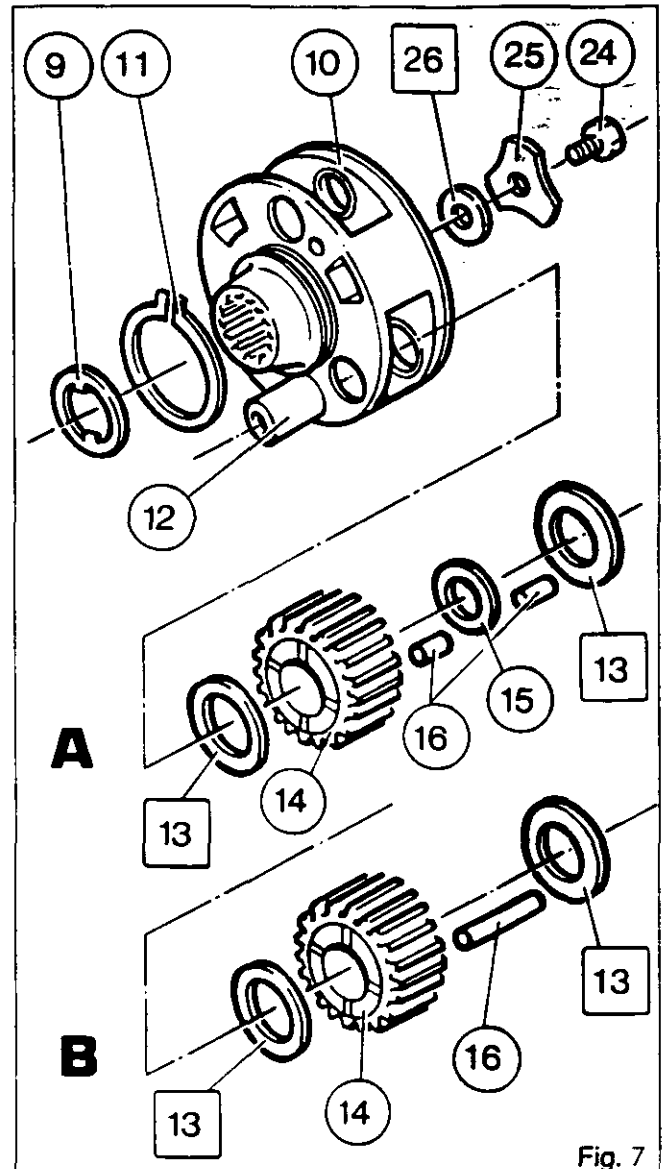
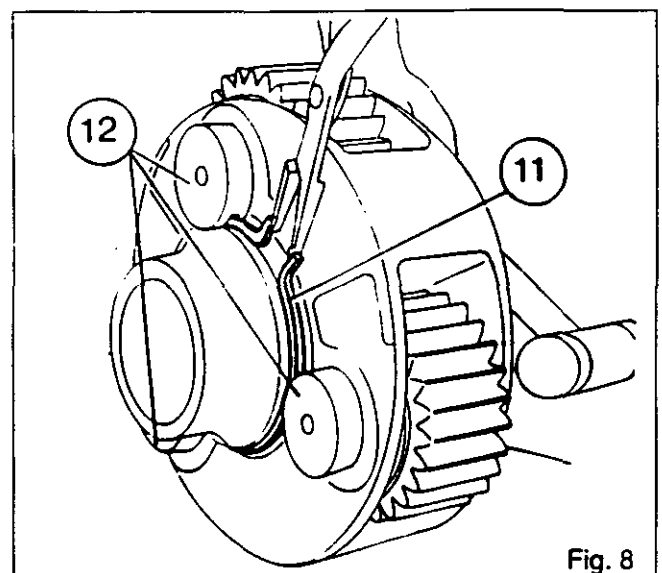
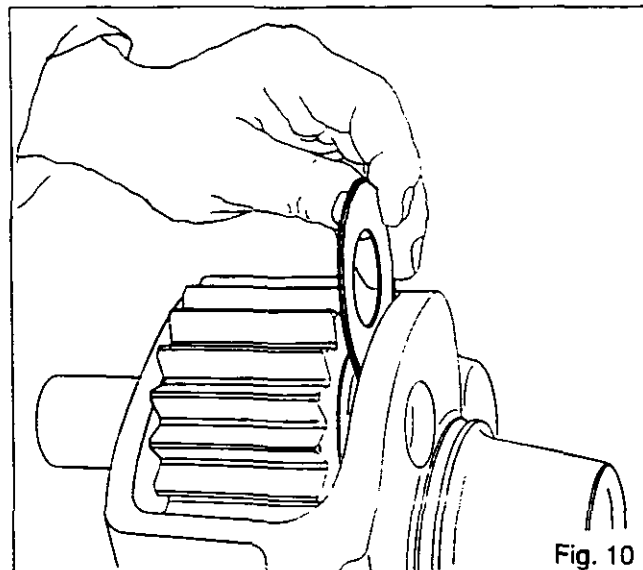

Fig. 7
Fig. 8
Fig. 10
2. Remove the bolt (24) (Fig. 7).
3. Remove the retaining washer (25) and the shim(s) [26] (Fig.7).
4. Remove the planetary carrier assembly (10).
5. Open out the circlip (11) (Fig.8).
6. Using a copper tipped mallet, tap lightly on the three pins (12) (Fig.8).
7. Remove the three pins (12) and the circlip (11).
8. Remove the three planetary gears (14), the needle rollers (16), the spacers (15) (heavy duty planetary gear A) and the thrust washers [13].
9. Clean the planetary carrier (10), the pins (12) and the planetary gears (14). Check the condition of the parts.
10. Coat the needle rollers (16) with "Amber Technical" or an equivalent grease. Into each planetary gear (14) insert :
- Heavy duty planetary carrier (A) : two rows of needle rollers separated by a spacer (15) (Fig.7).
- Normal duty planetary carrier (B) : one row of needle rollers (Fig.7).
**Note: Each heavy duty planetary gear (A) has 42 needle rollers.**
**Each normal duty planetary gear (B) has 21 needle rollers.**
12. Position the planetary gears (14) and the medium thickness washers [13] on each side of the planetary gear.
13. Fit the three pins (12).
15. Pull out the three pins slightly and fit the shims [13] selected in procedure 14 (Fig.10).
16. Push in the three pins and fit the circlip (11).
17. Open out the circlip (11) (Fig.8).